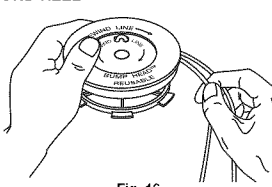

Fig. 16
7. Wind the lines in tight even layers, onto the reel (Fig. 16). Place your index finger between the two lines to stop the lines from overlapping. Do not overlap the ends of the line. Proceed to step 11.